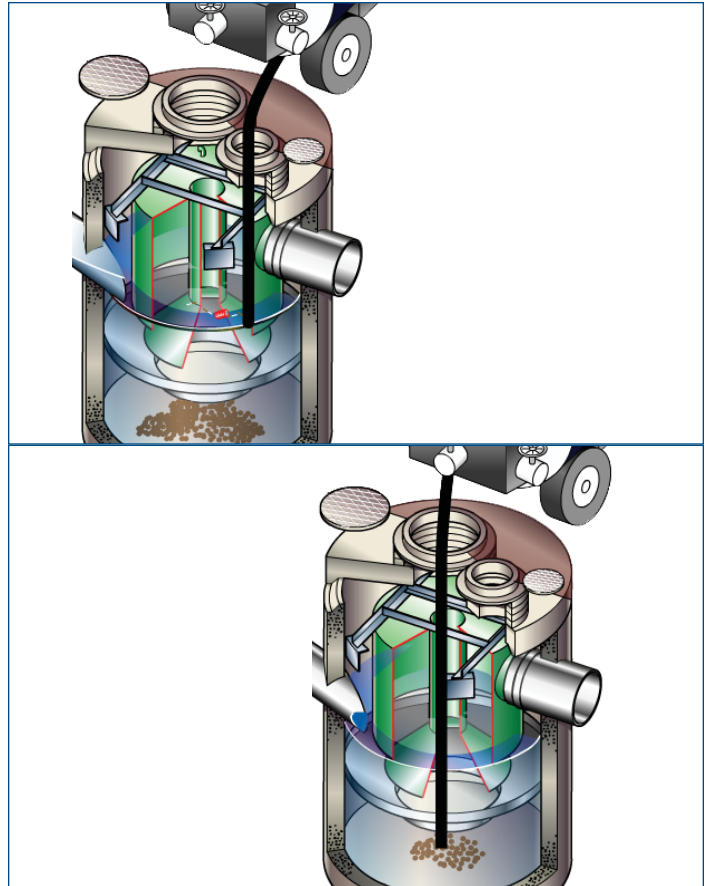

Fig.9 Floatables and sediment are removed with a vactor hose
4. Using the Floatables Port for access, remove oil and floatables stored on the surface of the water with the vactor hose or the skimmer net (Fig.9).